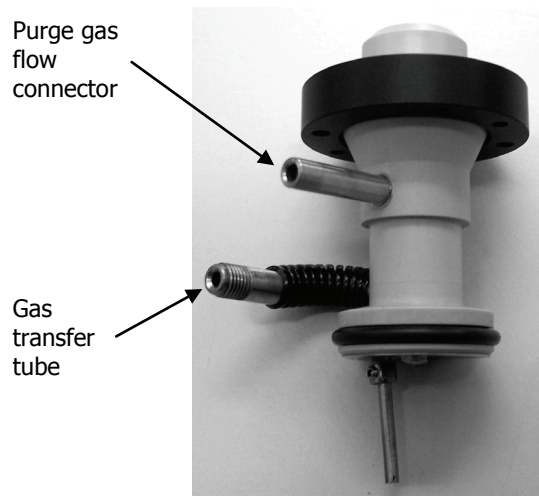
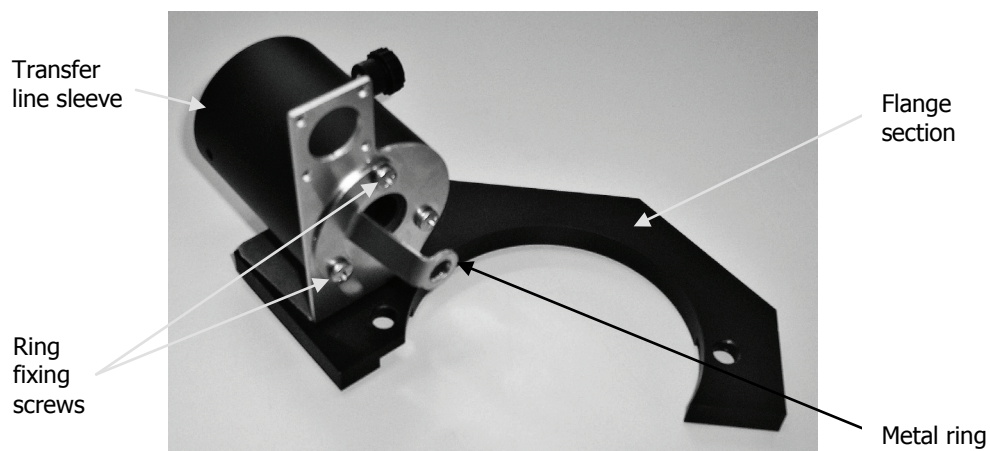
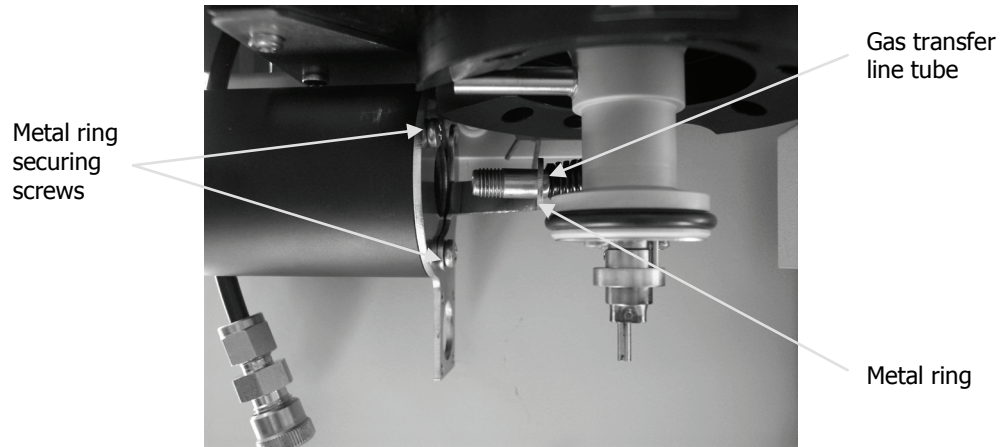

Figure 51 Upper furnace replacement
Figure 53 Gas transfer line sleeve support
Figure 56 Fitting the metal ring to the gas transfer line
6. Locate your upper furnace replacement (Figure 51).
8. Locate your transfer line sleeve support and remove the metal ring that protrudes from it by loosening the two screws that hold it in place (Figure 53).
11. Fit the metal ring previously removed from the gas transfer line sleeve support (Figure 53) over the end of the gas transfer tube (Figure 51) and then secure it back onto the gas transfer line sleeve support (Figure 56).